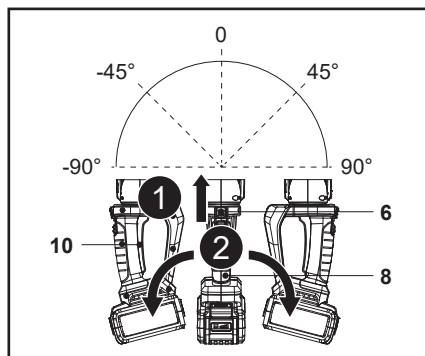

Fig. 5
1. Push forward the rotary handle lock button (6) and hold it in position (Fig. 5, step 1).
2. Rotate the rear handle (8) to the left or right slightly (Fig. 5, step 2).
3. Release the rotary handle lock button (6) and keep moving the rear handle (8) until it locks in place with an audible click.